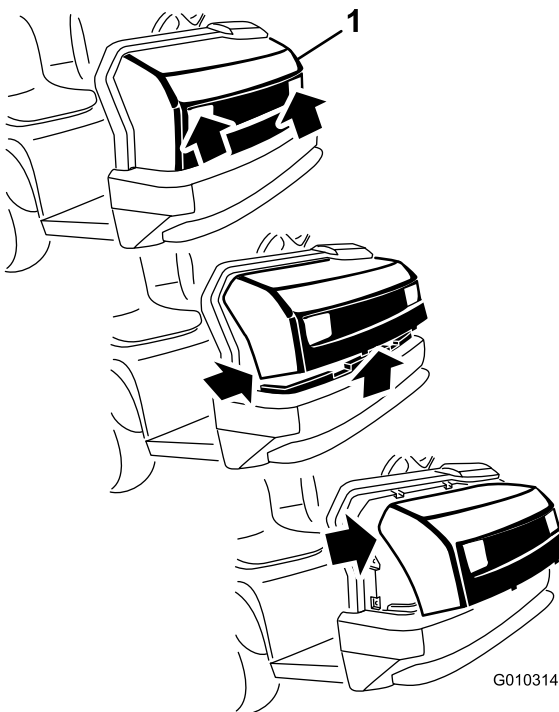

Figure 37
1. While grasping the hood in the headlight openings, lift up on the hood to release the lower mounting tabs from the frame slots (Figure 37).
2. Pivot the bottom of the hood upward until the top mounting tabs can be pulled from the frame slots (Figure 37).
3. Pivot the top of the hood forward, and unplug the wire connectors from the head lights (Figure 37).